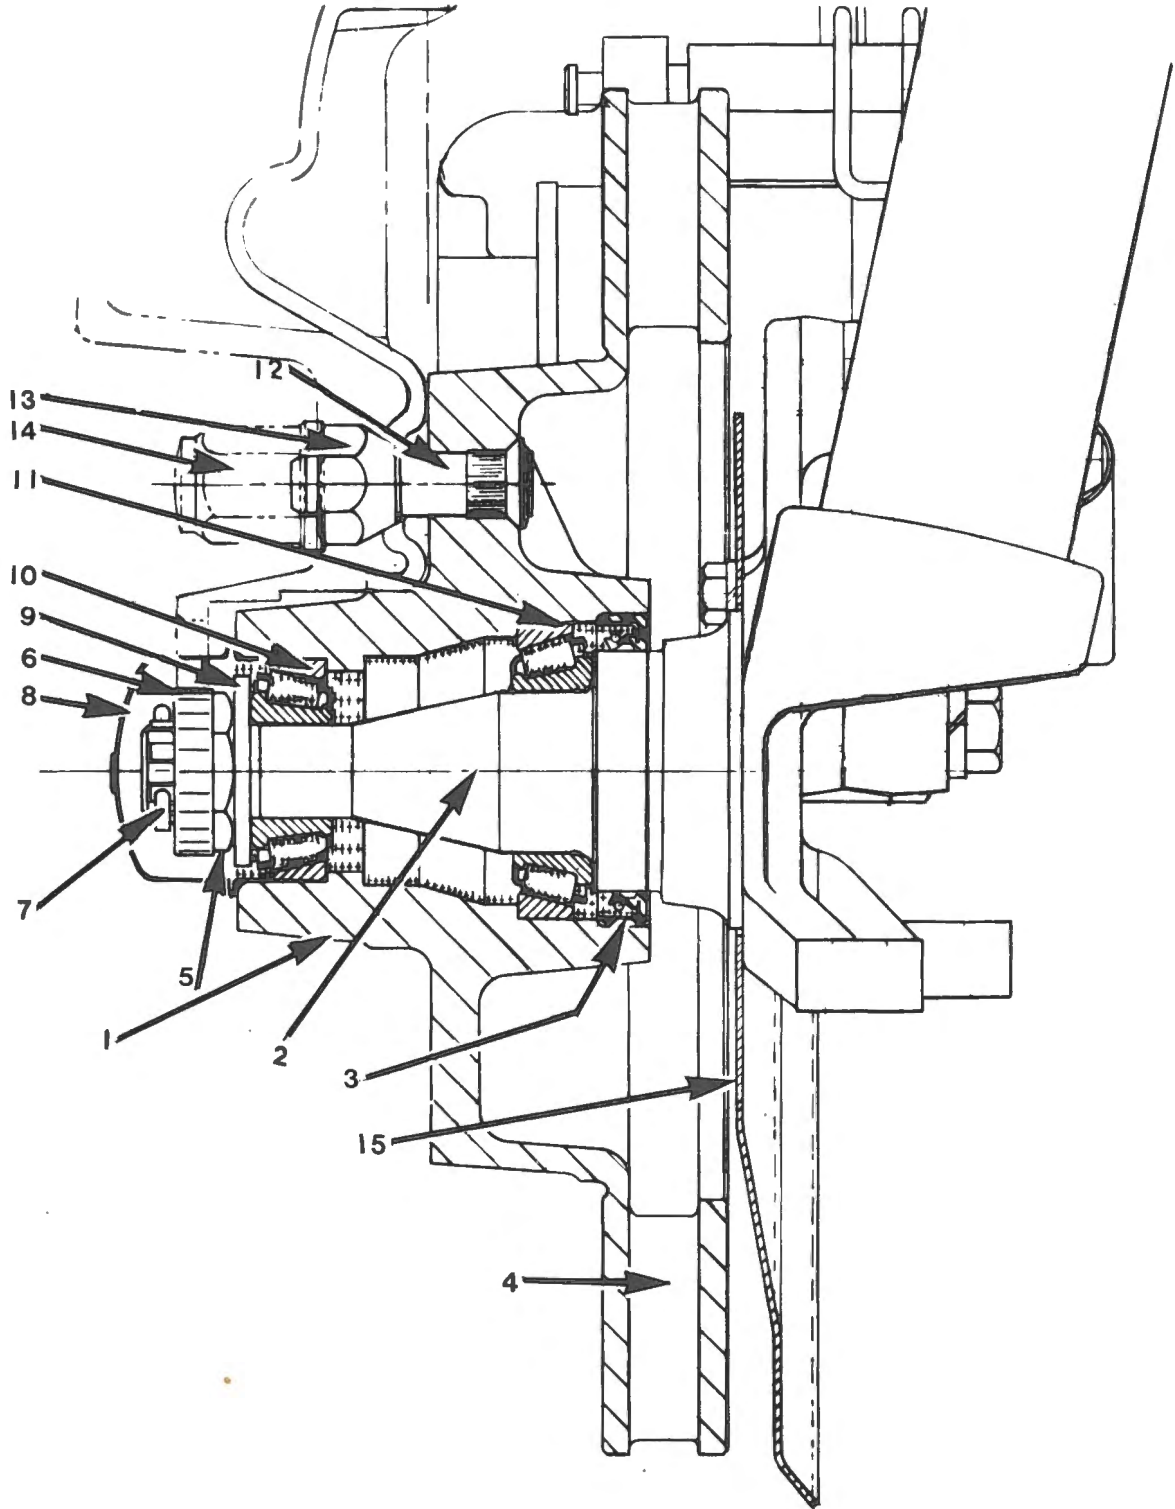

Fig. P-7
The front hub and ventilated brake disc is an integral part incorporating taper roller type bearings. It is necessary to remove the brake caliper before removing the hub and disc assembly. Refer Fig. P-7.
- 6 Slacken the nut and retainer until the split pin hole is fully uncovered, insert the split pin and lock by turning the legs of the split pin circumferentially around the nut retainer. Fig. P-7.